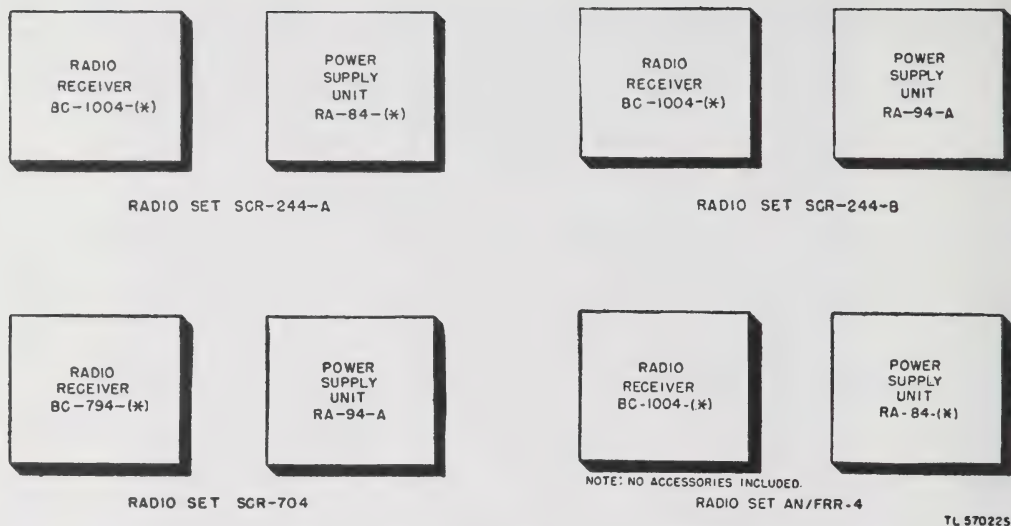

Figure 3. Radio sets, block diagram of main components.
d. The four Radio Sets SCR-244-A, -B, SCR-704, and AN/FRR-4 are merely different combinations of receivers and power supply units plus additional accessories such as headsets, antenna wires, insulators, etc. Figure 3 shows the radio receiver and power supply unit combinations used in the four radio sets. Note that Radio Set AN/FRR-4 consists only of the receiver and power supply unit. No headphones, antenna wires, or other accessories are included.